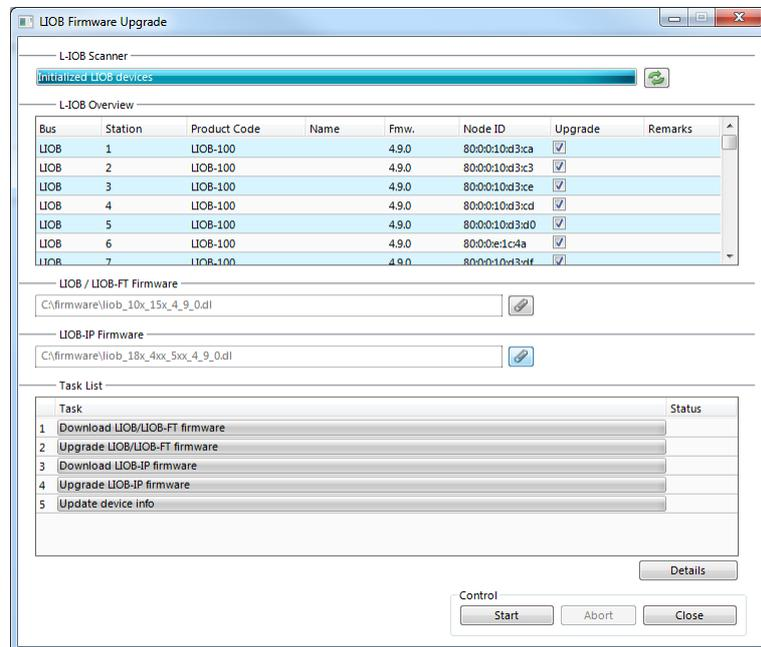

Figure 74: L-IOB Firmware Update dialog of the Configurator
3. This opens the Firmware Upgrade dialog as shown in Figure 74 and starts the detection of all connected L-IOB devices. Using the **Upgrade** checkbox in the **L-IOB Overview** list, it is possible to choose which devices shall be upgraded.
- This opens the Firmware Update dialog, which will look similar to Figure 74. Click on the  button and select the L-IOB firmware image. Observe that LIOB-45x/55x devices need a different firmware than the other models.